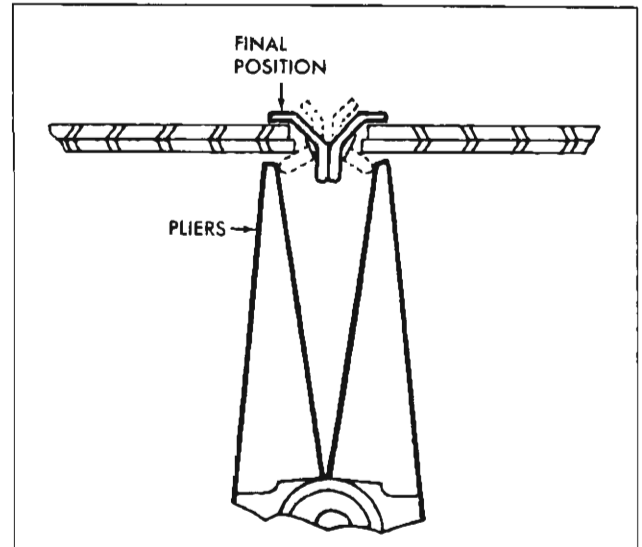

Fig. 12c—Special Clip
3. Center face panel may be separated from reinforcements by removal of special clips shown in Figure 12c.